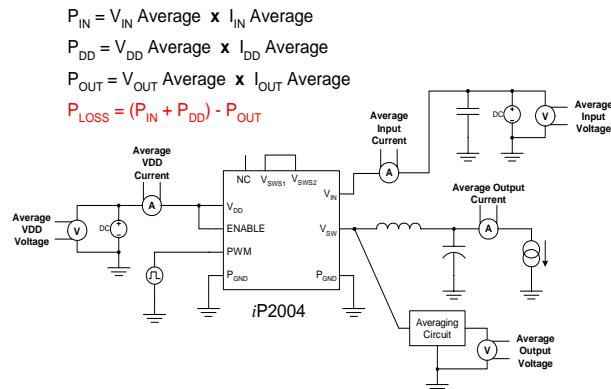

Figure 9 Power Loss Test Circuit
3. Measurement made with six 10 μ F (TDK C3225X5R1C106KT or equivalent) ceramic capacitors across V_{IN} to P_{GND} pins (see Figure 9).